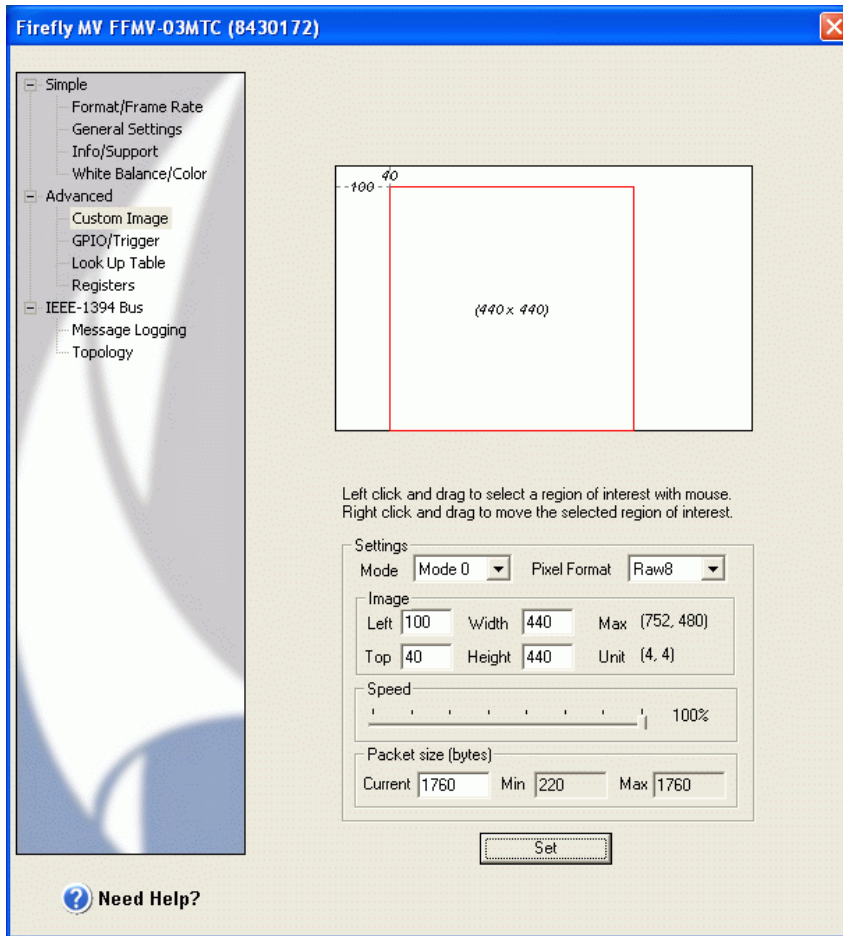

Figure 15: Final parameters set in the "Custom Image".
14. In conclusion, for this particular Ball Balancer, we need a 440 x 440 image with a *Height* offset of 40 and *Width* parameter of 100 so the plate is square in the FlyCap view. The resulting *Custom Image* tab is shown in Figure 15. Note also, that these parameters will vary across different Ball Balancer setups, e.g. depending on where the height adjuster is placed. Make any final adjustments needed and ensure that only the balance table is shown in the video feed. **Record the final Left, Top, Width, and Height camera parameters.** They will be needed for the camera control software.